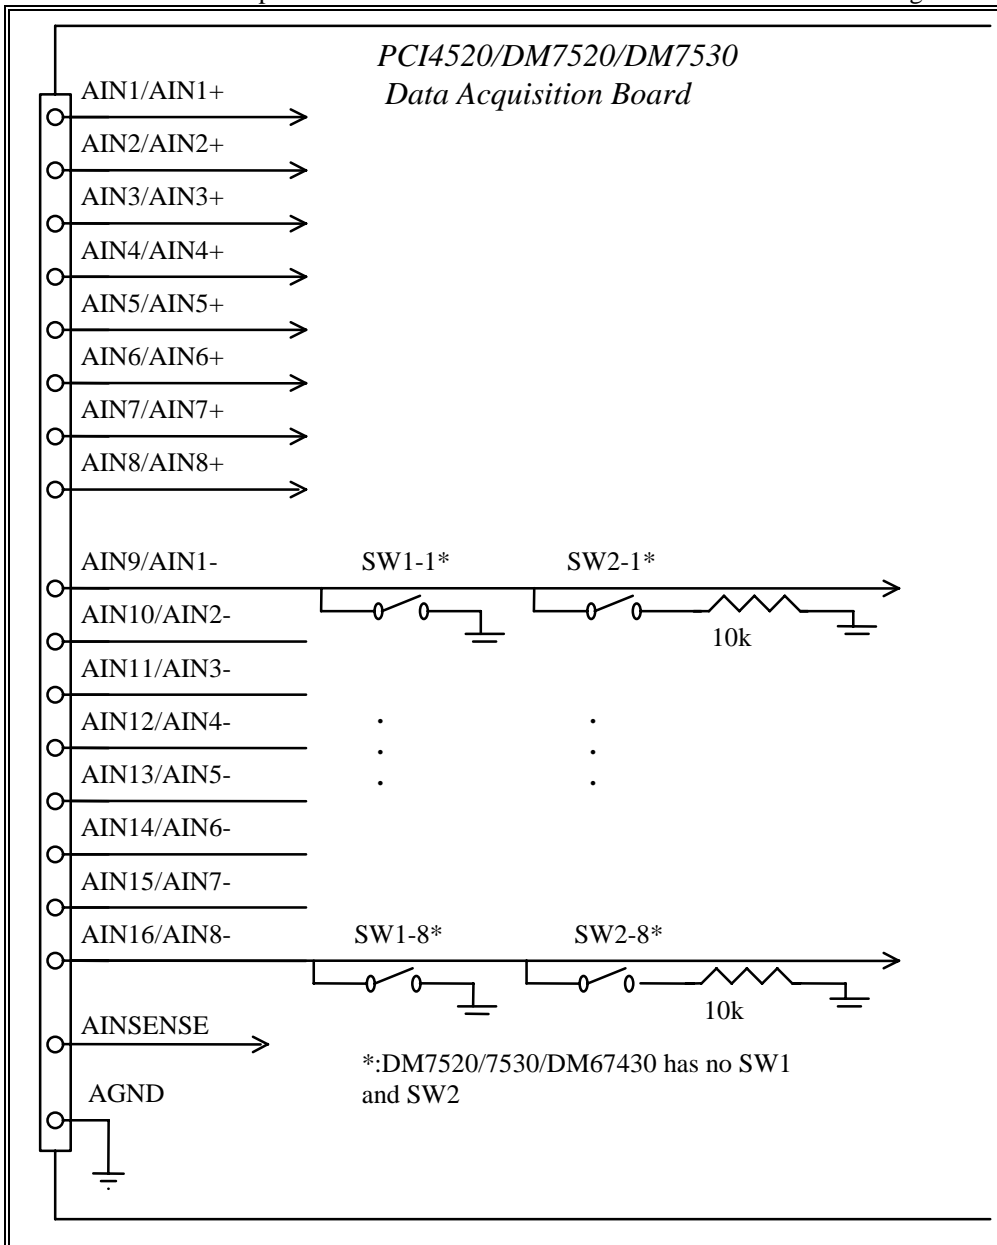
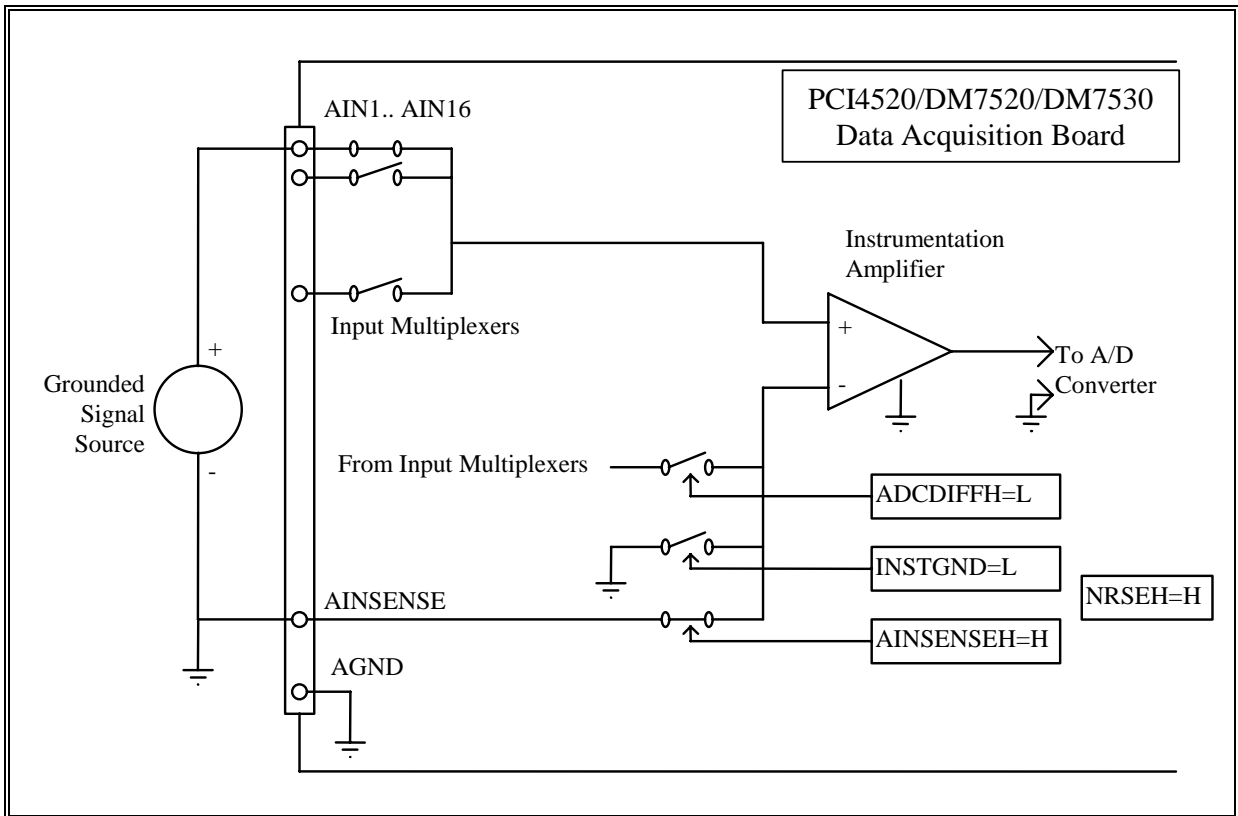

Figure 2.3.1.
Figure. 2.3.3 Non Referenced Single-Ended input mode
All of three modes are software selectable. Inside the differential mode the no grounding, the grounding directly or via a 10kOhm resistor of low side of source can be done by setting the DIP switches on SW1 and SW2. The position of the SW1 and SW2 Switches can be seen in the Figure 2.3.1.
*This mode is suggested only for floating signal sources to avoid the ground loops. To configure the GRSE analog input, connect the high side of the input signal to the selected analog input channel, AIN1 through AIN16, and connect the low side to any of the ANALOG GND pins available at the connector. If you use the channels 9.. 16 switch the appropriate SW1-x and SW2-x off. (See Figure 2.3.1.)*
This mode can be used - first of all - for grounded signal sources (in the Figure 2.3.3.), but can be used for floating sources too. In the case of floating sources an external resistor is needed to ground the AINSENSE signal. To configure the NRSE analog input, connect the high side of the input signal to the selected analog input channel, AIN1 through AIN16, and connect the low side to the AINSENSE pin available at the connector. If you use the channels 9.. 16 switch the appropriate SW1-x and SW2-x off. (See Figure 2.3.1.)
In the Figure 2.3.3 You can see the switch states of this mode. The NRSEH bit is in high state which means that this is the NRSE mode. ADCDIFFH bit is in low state because this is not a differential mode. The AINSENSEH bit is in high state controlling the connection of low side of Instrumentation Amplifier to AINSENSE signal. The INSTGNDH bit is in low state because the reference signal of Instrumentation Amplifier is the AINSENSE signal.